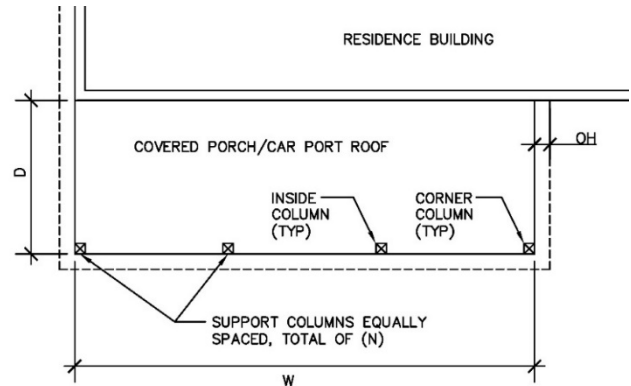

Figure 1
- Framing geometry as shown in Figure 1